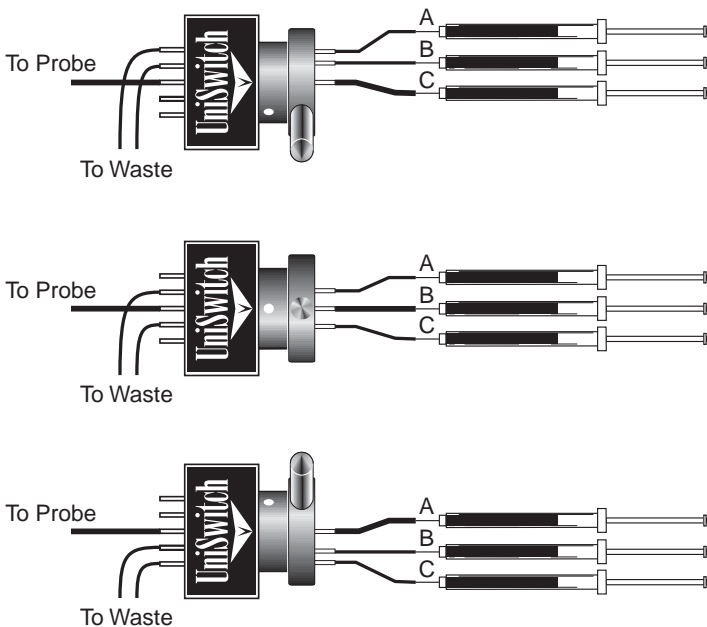

Fig. 3. Changing Perfusion Fluid with the BAS UniSwitch.
Flow from each syringe is aligned with the center outlet cannula by pulling a lever on the UniSwitch. Figure 3 demonstrates the flow path of fluid from three syringes through the UniSwitch at each position setting. An alignment dot on the UniSwitch rotor indicates which syringe is being routed to the destination device.
7. Keep switching and checking fluid flow after each switch, according to the flow diagram in Figure 3. Stop the syringe pump.